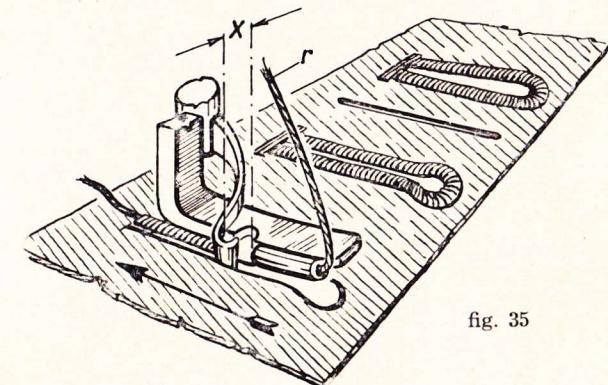

fig. 35
- 9) Place the cloth under the presser foot making sure that the round part of the cut buttonhole is toward you (Fig. 35).
- 12) Place spool of gimp (cord) on the second pin of the machine and pull gimp from right to left through gimp guide « C » (Fig. 35) on face plate, then down and from front to back through the hole in the base of the presser foot (Fig. 35).
NOTE. In order to make special buttonholes, it may become necessary to vary the distance X (Fig. 35) between the spreader guide and the foot and this can be done by means of the proper screw on the back of the buttonhole foot.